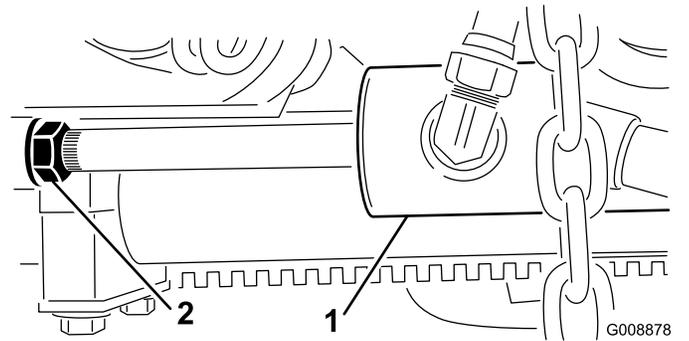

**Figure 28**
1. At each side of the machine, loosen the jam nuts and back off the lift arm-stop bolts (Figure 28).